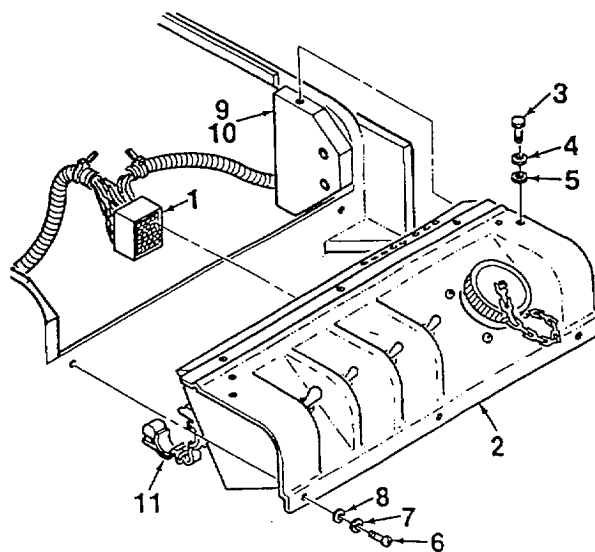

Figure 4-10. Local Control Panel
2. Disconnect electrical connector (1, Figure 4-10) from rear of control panel assembly (2). Remove wiring harness from back of panel by disengaging plastic clamp (11).
3. Remove control panel assembly (2) from panel mounting blocks (9) by removing two screws (3), lockwashers (4), and washers (5).
4. Remove control panel assembly (2) from APU enclosure by removing three screws (6), lockwashers (7), and washers (8).
5. Block (9) is held in place by two screws (10), that also secure tie-down ring. Remove block only if replacement is required.